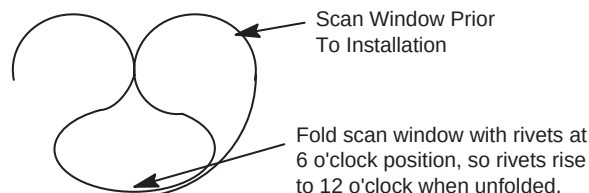
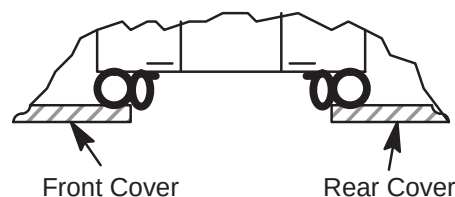

Figure A-28 Install Scan Window
Figure A-29 Scan Window Nested Between Front and Rear Cover
- 2.) Deform the scan window, as shown in Figure A-28, and nest the scan window at the bottom of the opening between the front and rear covers, (Figure A-29) with the rivets in the 6 o'clock position installation position. Remember the rivets must be in the 12 o'clock position when the mylar window is fully installed.